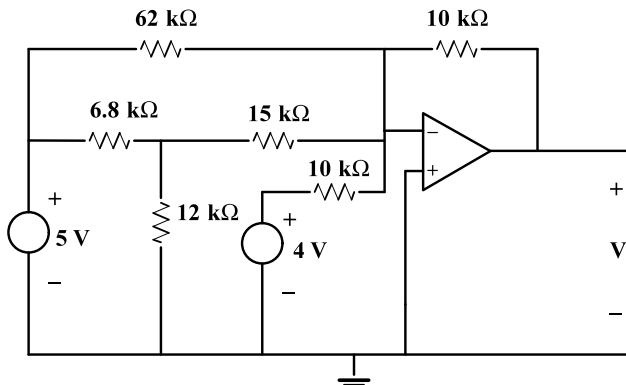

Figure 3.9 Laboratory circuit for an inverting operational amplifier.
- (a) Construct the circuit shown in Figure 3.9. You may use either ¼ watt or ½ watt resistors.